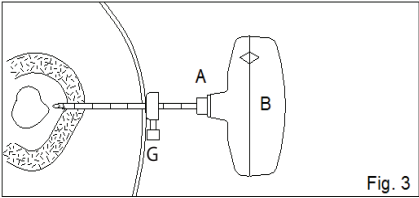

Fig. 3
FIG. 3 With careful but firm turns, rotate the Cutting Cannula and Stylet (A+B) clockwise until the depth gauge (G) reaches the skin and/or desired position is obtained.